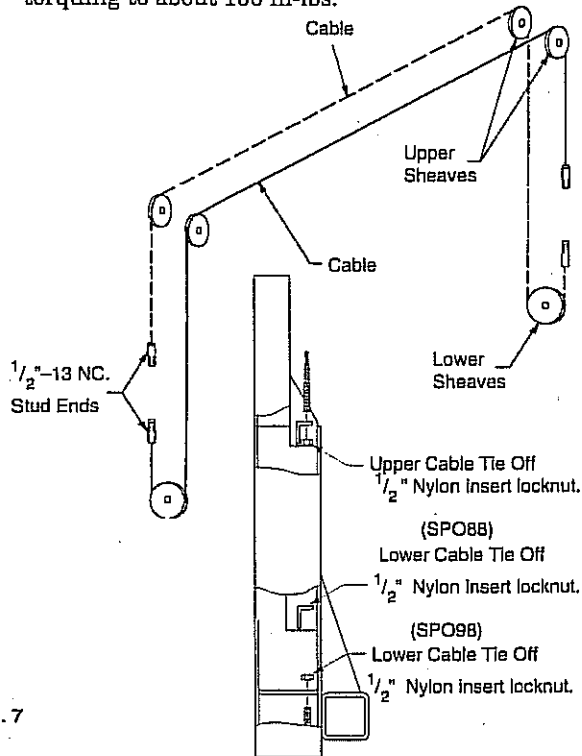

Fig. 7
9. **Roping:** Fig. 7 describes general cable arrangement. It's easier to tie off lower studs first. Run cable stud up thru the lower tie off plate, and bracket(s) depending on lift model, using $\frac{9}{16}$ " hole. Push cable up until stud is above top of carriage tube. Run nylon insert locknuts onto studs so that $\frac{1}{2}$ " extends out from top of locknut, then pull cable back down, Fig. 7. Run cable overhead and tie off top studs torquing to about 100 in-lbs.